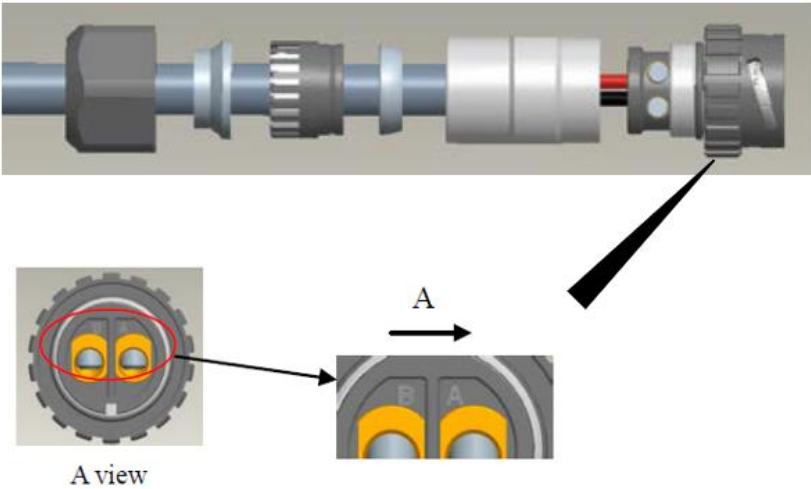

Figure 4-17 Wire assemble
Step 2: Use torx screwdriver T15 to terminate the 2 conductors in the corresponding contacts A / B in the front plug assembly, as shown in Figure 4-17.